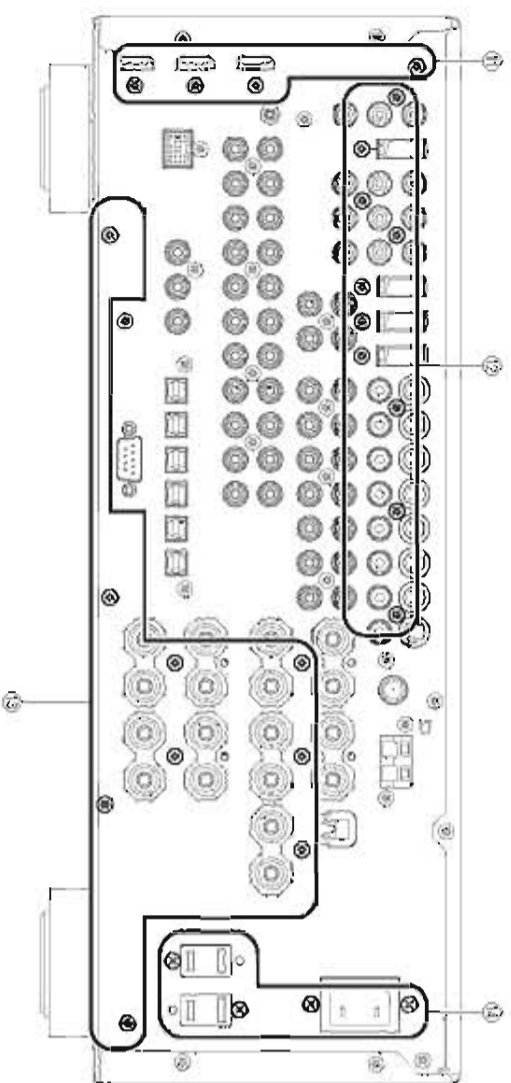

Fig. 5
- Remove 4 screws (⑪). (Fig. 5)
- Remove 6 screws (⑫). (Fig. 5)
- ⑪のネジ4本を外します。(Fig. 5)
- ⑫のネジ10本を外します。(Fig. 5)
- a. Remove 11 (U, C, T, A, B, G, E models) / 13 (F, L models) screws (10) and 4 (U, C, R, T, A, B, G, E, L models) / 2 (K model) screws (11). (Fig. 5)
- a. ⑩のネジ9本、⑪のネジ4本を外します。(Fig. 5)